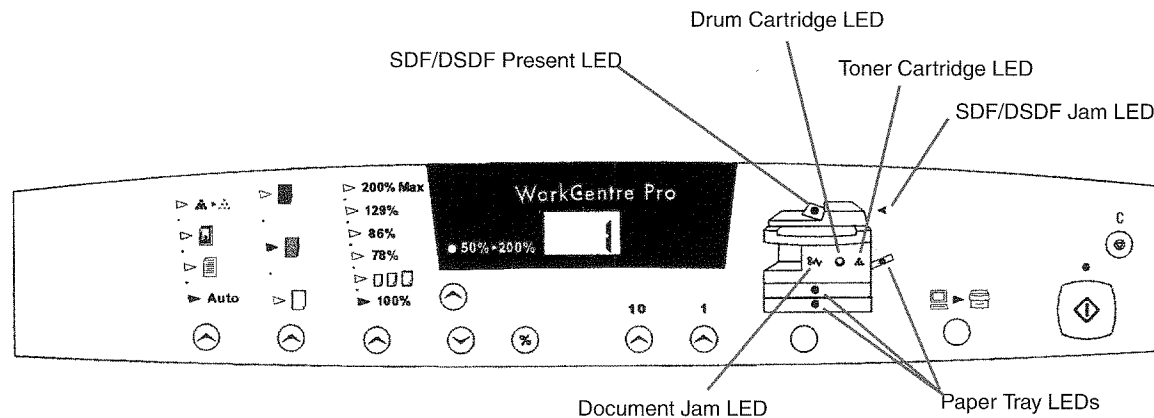

Figure 1 Control Panel Indicator LEDs
- OTHER STATUS INDICATORS (refer to Figure 1 for the locations of LEDs)